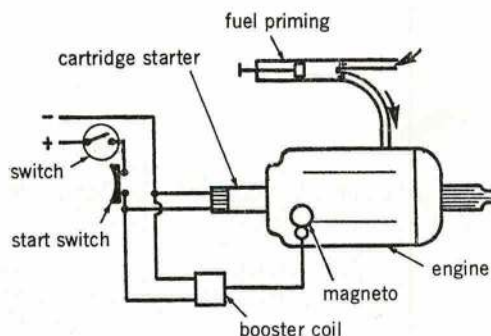

Fig 1.9.7 Cartridge starter wiring system
26. The starter button must be held in when starting until the engine picks up, or the booster coil will cease to function. A simple cartridge starter wiring system is illustrated at Fig 1.9.7.